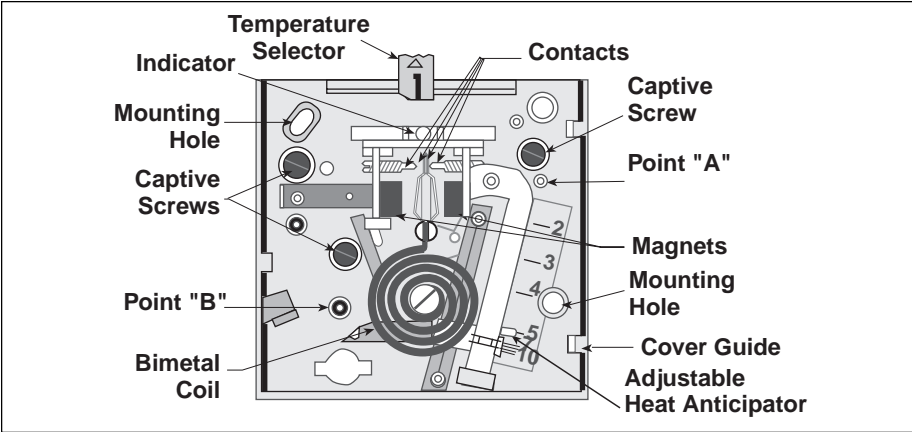

Figure 1. T'stat Body/Front View
**NOTE:** Use designated mounting holes only (see Figure 1).
8. Mount thermostat body to sub-base. Secure by tightening captive screws (see Figure 1).